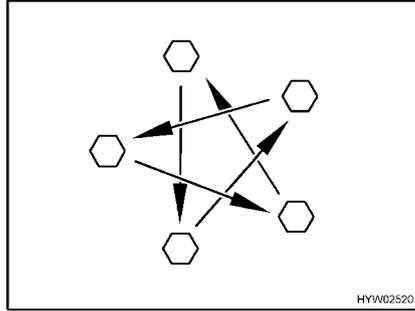

Fig. 169 Tighten the wheel nuts or wheel bolts cross-wise
- Check regularly that the wheel nuts or wheel bolts are firmly seated. Re-tighten the wheel nuts or wheel bolts of a changed wheel after 50 km (30 miles) (Fig. 169).
- When using new or newly painted rims, re-tighten the wheel nuts or wheel bolts once again after approx. 1,000 to 5,000 km (600 miles to 3,000 miles) (Fig. 169).
- ▷ Tighten the wheel nuts or wheel bolts cross-wise (Fig. 169).